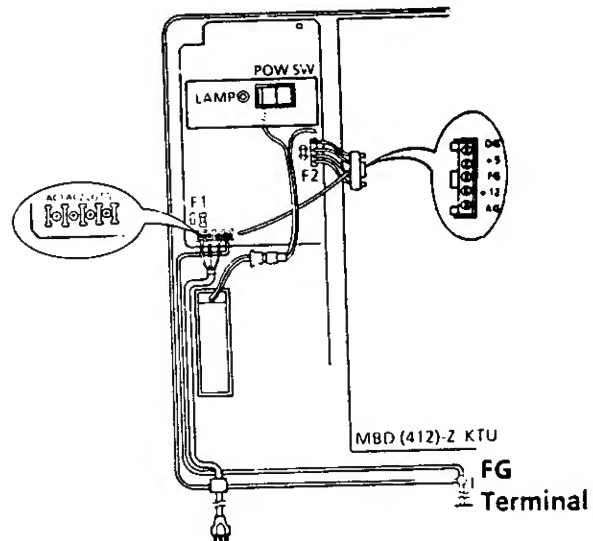

Figure 200-53 PSZ-8-1 Connections
- The connector from the PSZ-8-1 unit to the battery is not connected at the time of shipment. Figure 200-53 shows the location for these connections.